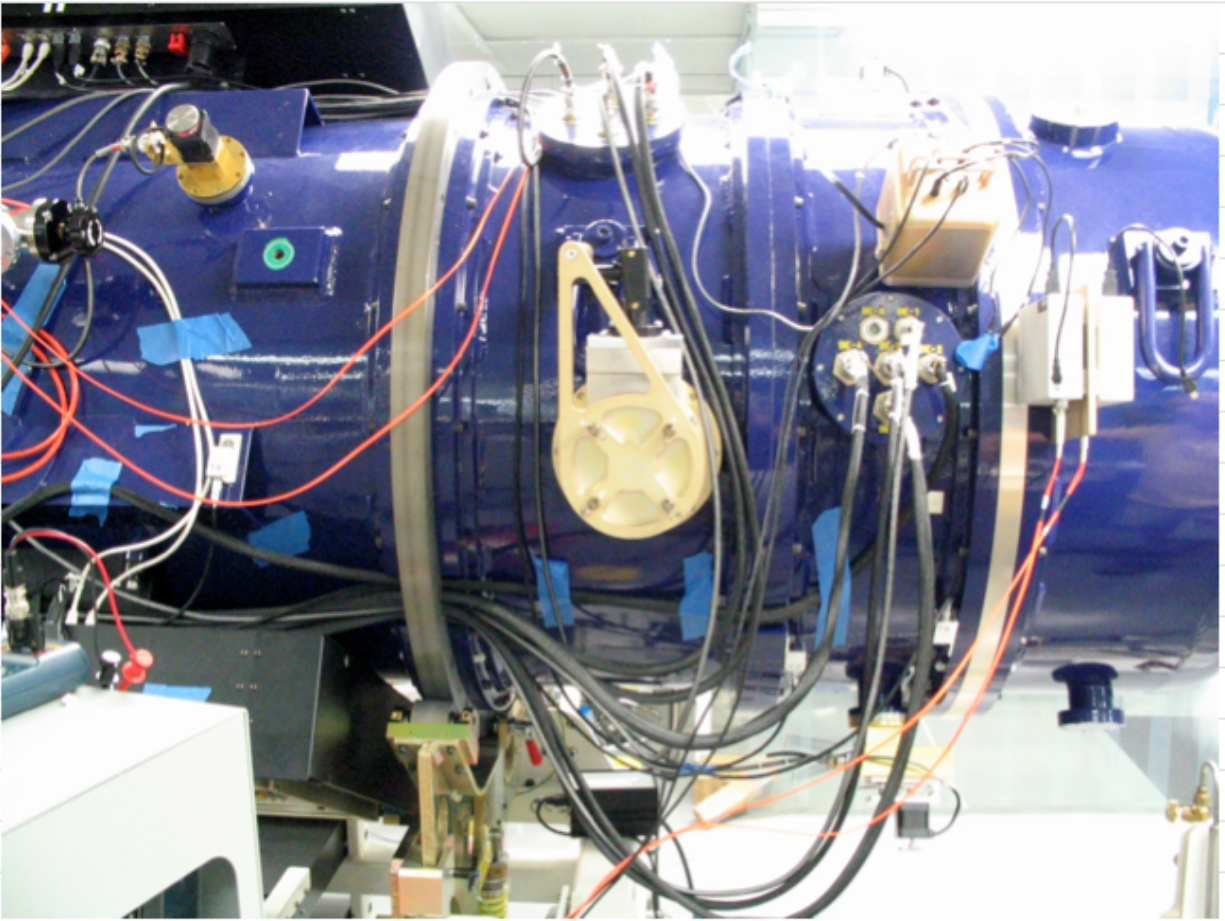

Figure 4. The main FourStar Vacuum port with the (gold-colored) safety cover in place.
**WARNING: HIGH RISK.** The safety cover is normally (always) over the vacuum gate valve as shown in Figure 4. This cover is in place to prevent the gate valve from accidental opening and to protect the O-ring surface from scratches. In the following operation the safety cover will be removed to allow pumping on the vessel interior.